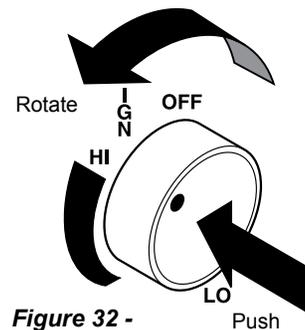

Figure 32 -
10. Push in control knob and turn counterclockwise to the HIGH setting. At this location the control knob will pop out when positioned correctly. The knob can now be positioned at any position between HIGH and LOW. Figures 32 and 33